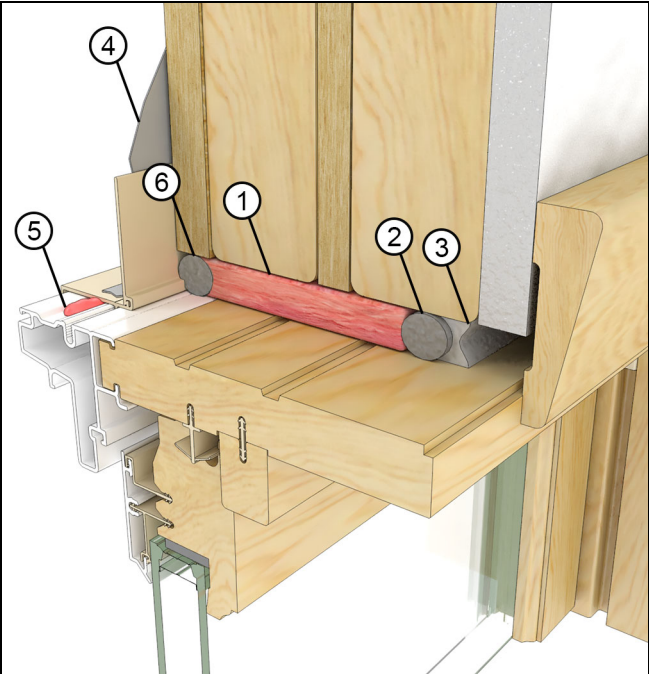

Figure 39
1. Loose Fill Fiberglass Insulation. Insulate the RO cavity with loose fill fiberglass insulation. Install a backer rod and sealant at the interior plane of the RO to create a continuous air seal. See Figure 39.